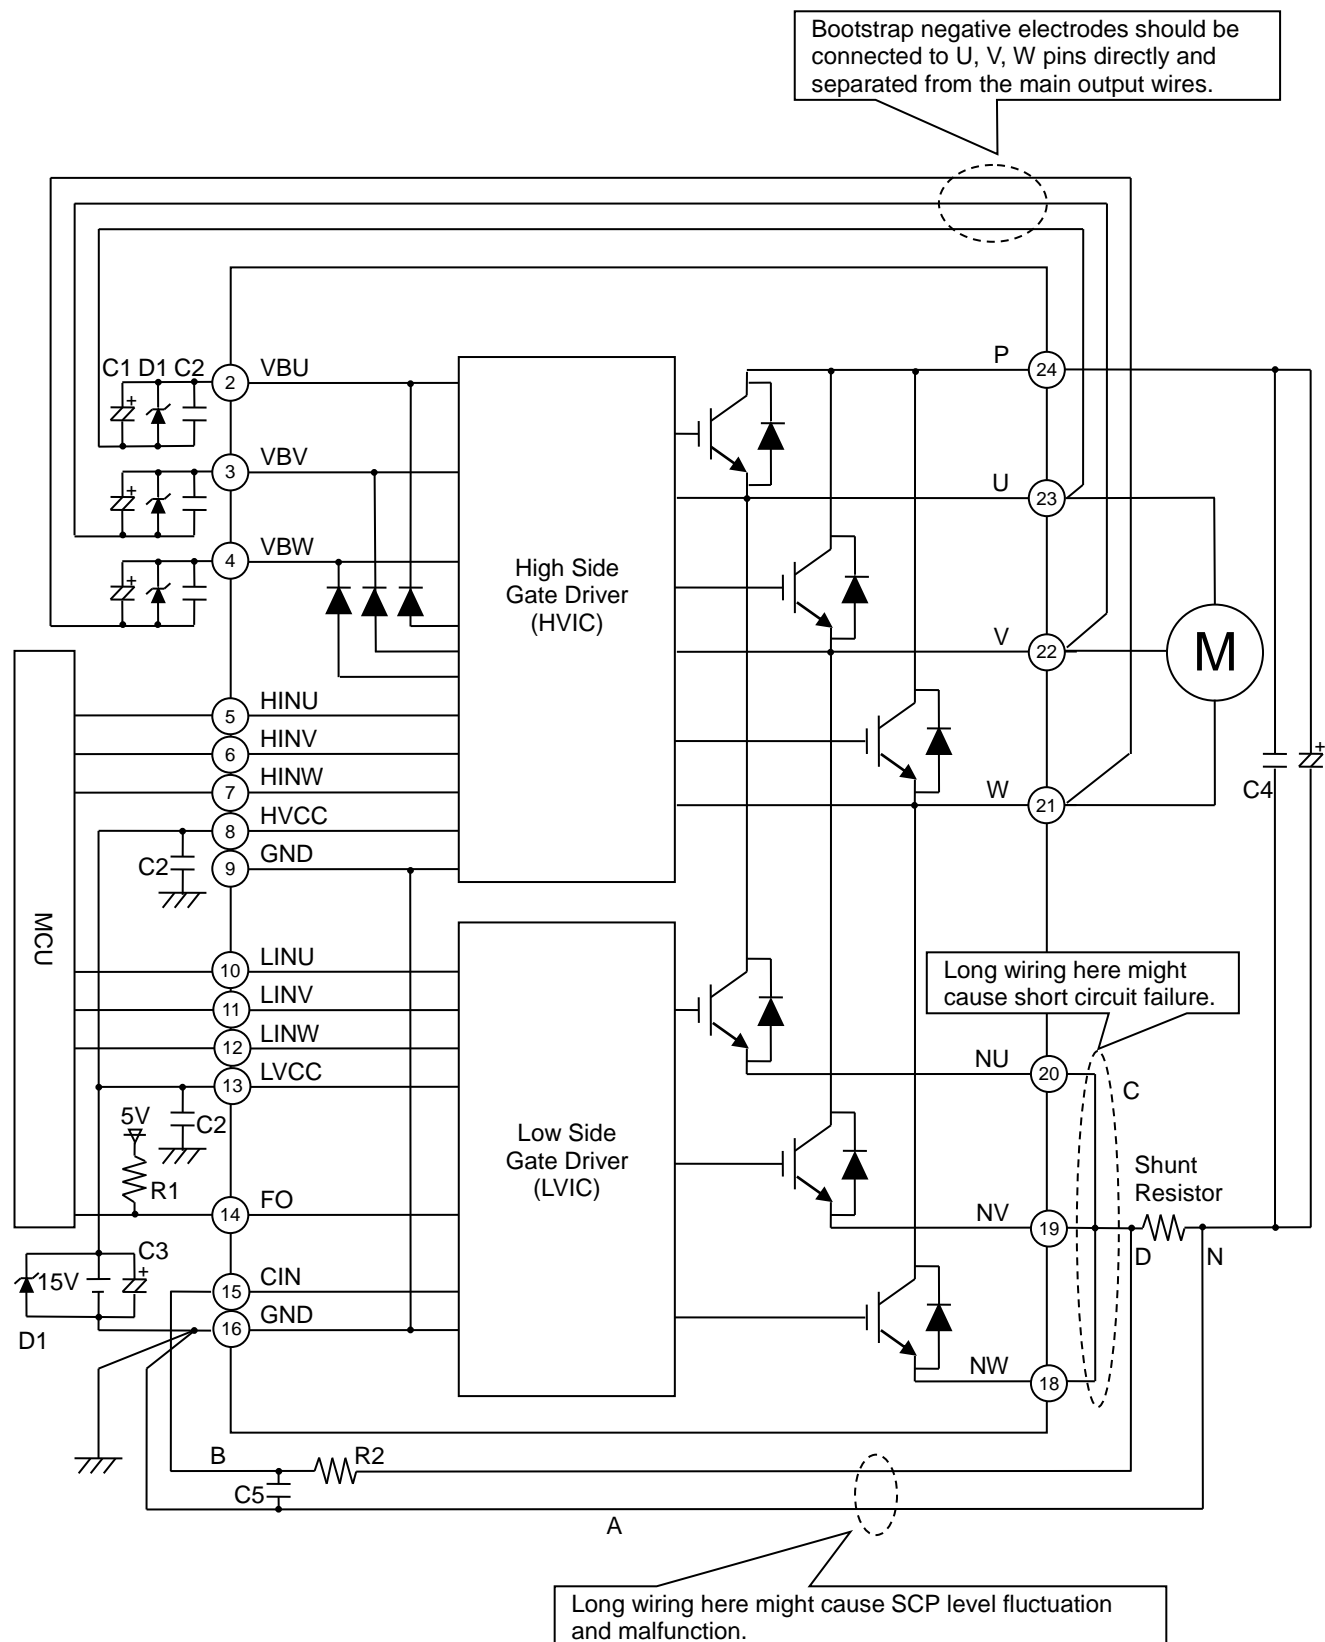

Figure 14. Example of Application Circuit
**Selection of Components Externally Connected (Refer to Figure 14)****1) VBU, VBV, VBW pin**